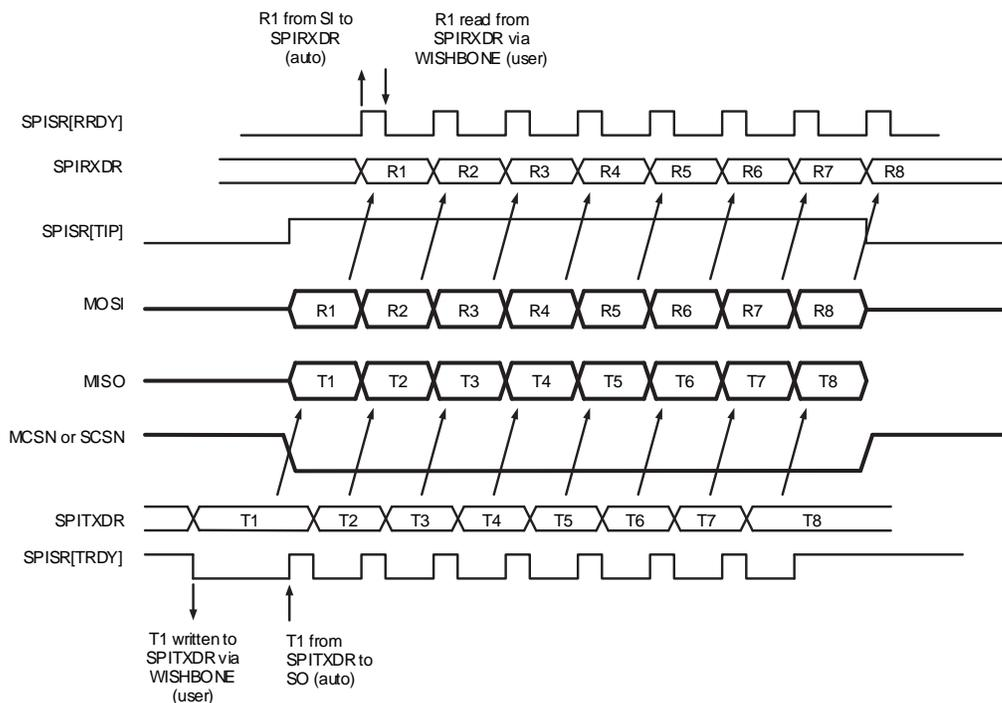

Figure 15.1. Fully Specified SPI Transaction (iCE40 LM, iCE40 Ultra and iCE40 UltraPlus as SPI Master or Slave)
**Note:** When operating as a Slave, SPITXDR must be written when SPISR[TRDY] is '1' and at least 0.5 CCLKs before the first bit is to appear on SO. For example, when CPOL = CPHA = TXEDGE = LSBF = 0, SPITXDR must be written prior to the CCLK rising edge used to sample the LSB (bit 0) of the previous byte. See Figure 15.1 – Figure 16.3. This timing requires at least one protocol dummy byte be included for all slave SPI read operations.
**Note:** Assumes CR2 register, MSCH = '1'. The algorithm when MSCH = '0' is application dependent and not provided. See Figure 15.1 for guidance.
SPI Functional Waveforms	Updated SPI Functional Waveforms section. <ul style="list-style-type: none"> <li>Revised caption of Figure 15.1. Fully Specified SPI Transaction (iCE40 LM, iCE40 Ultra and iCE40 UltraPlus as SPI Master or Slave).</li> <li>Revised caption of Figure 15.2. Minimally Specified SPI Transaction Example (iCE40 LM, iCE40 Ultra and iCE40 UltraPlus as SPI Slave)</li> </ul>